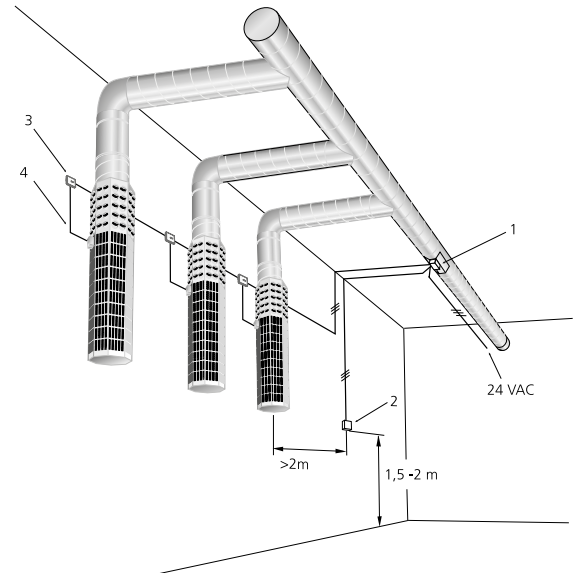
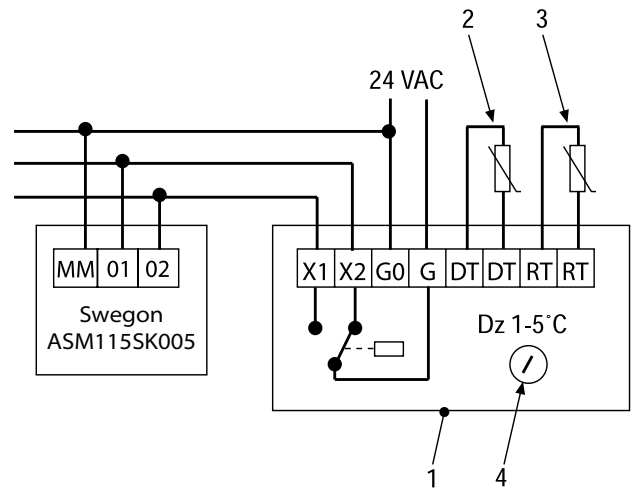

Figure 2. BOC with VHC.
Figure 3. The wiring diagram shows the supply terminal connections for a Sauter damper actuator fitted to the BOC.
VHC control unit (1) resets motor controlled diffusers intended both for cooling and heating with supply air. The controlling parameter is the temperature difference between supply air and room air. See figure 2.
VHC is connected to a 24 AC power supply according to wiring diagrams, Figure 2 and figure 3.
Key to Figure 2:
Key to Figure 3: